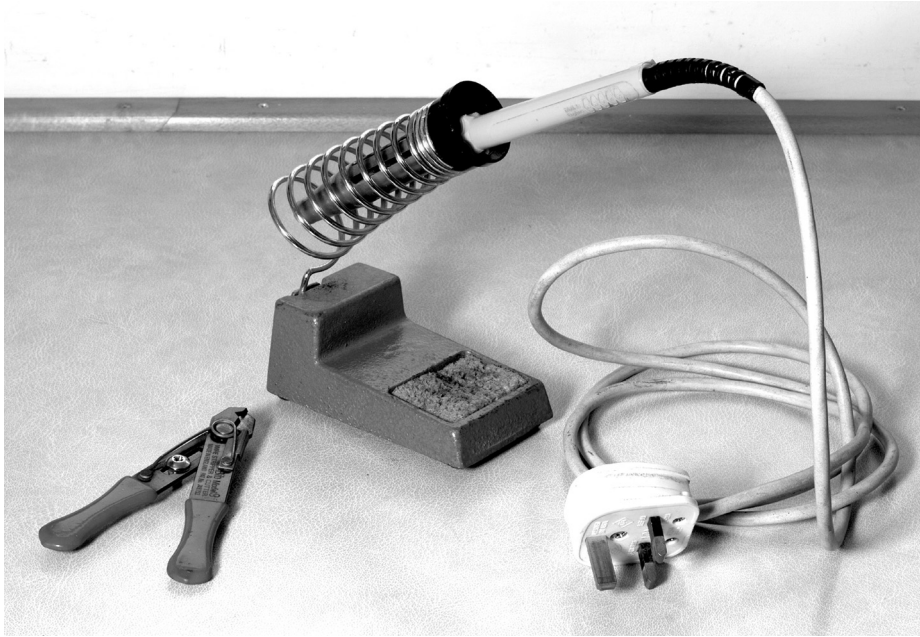

Fig. 4
- 2 (a) Fig. 4 shows a soldering iron and wire strippers. State **two** safety checks that should be carried out **before** using the soldering iron.